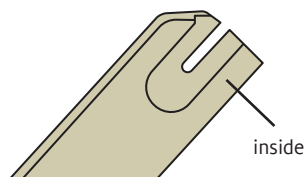

FIGURE 3: DETAIL OF DOUBLE BACK BEAM SUPPORTS
3. Orient the double back beam supports with the recessed cutouts for the rear oval beam at the top and to the inside of the loom (Figure 3).